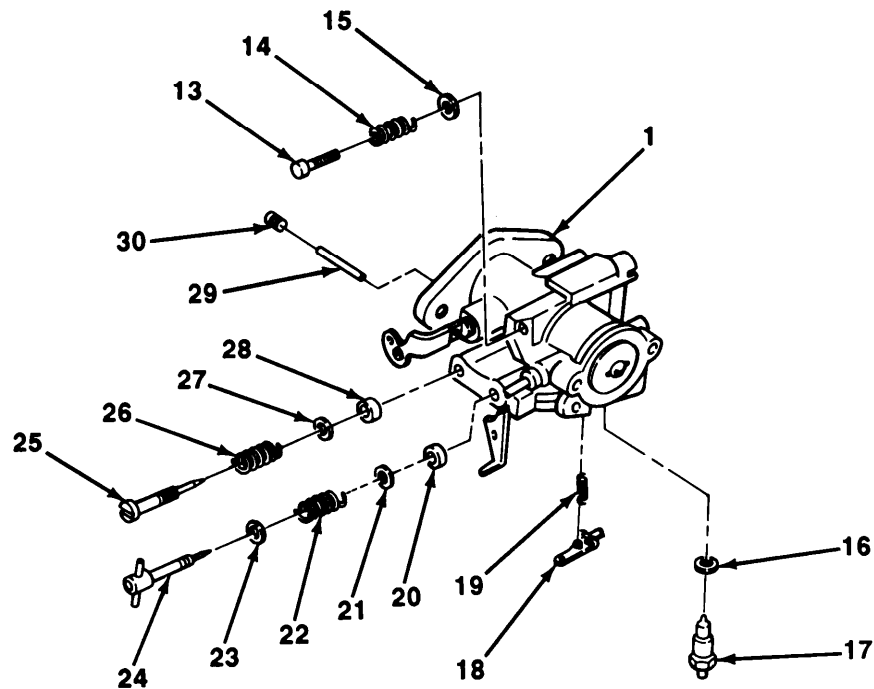

Figure 7-12. Carburetor Adjustment Screw, Idle Adjuster Screw, Regulating Screw, Inlet Needle, and Inlet Control Lever Replacement.
Refer to Figure 7-12, *Carburetor Adjustment Screw, Idle Adjuster Screw, Regulating Screw, Inlet Needle, and Inlet Control Lever Replacement*, for steps d through i.
- e. Install choke lever (43) on carburetor (1).
- f. Install choke valve (39) on carburetor (1) and choke lever (43) with screw (40).
- g. Install spring (32) and throttle shaft (31) on carburetor (1) with clip (35), new lockwasher (36), and screw (37).
- h. Install throttle shutter (34) on carburetor (1) and throttle shaft (31) with new screw (33).
**Refer to Figure 7-12, *Carburetor Adjustment Screw, Idle Adjuster Screw, Regulating Screw, Inlet Needle, and Inlet Control Lever Replacement*, for steps l through n.**
- i. Install washer (15), new spring (14), and new regulating screw (13) in carburetor (1).
- j. Install new packing (28), new washer (27), new spring (26), and idle adjuster screw (25) on carburetor (1).
- k. Install new packing (20), new washer (21), new spring (22), washer (23), and new speed adjustment screw (24) on carburetor (1).
- l. Install new gasket (16) and new needle valve (17) in carburetor (1).
- m. Install new spring (19) and new inlet control lever (18) in carburetor (1).
- n. Install pin (29) and screw (30) in carburetor (1).